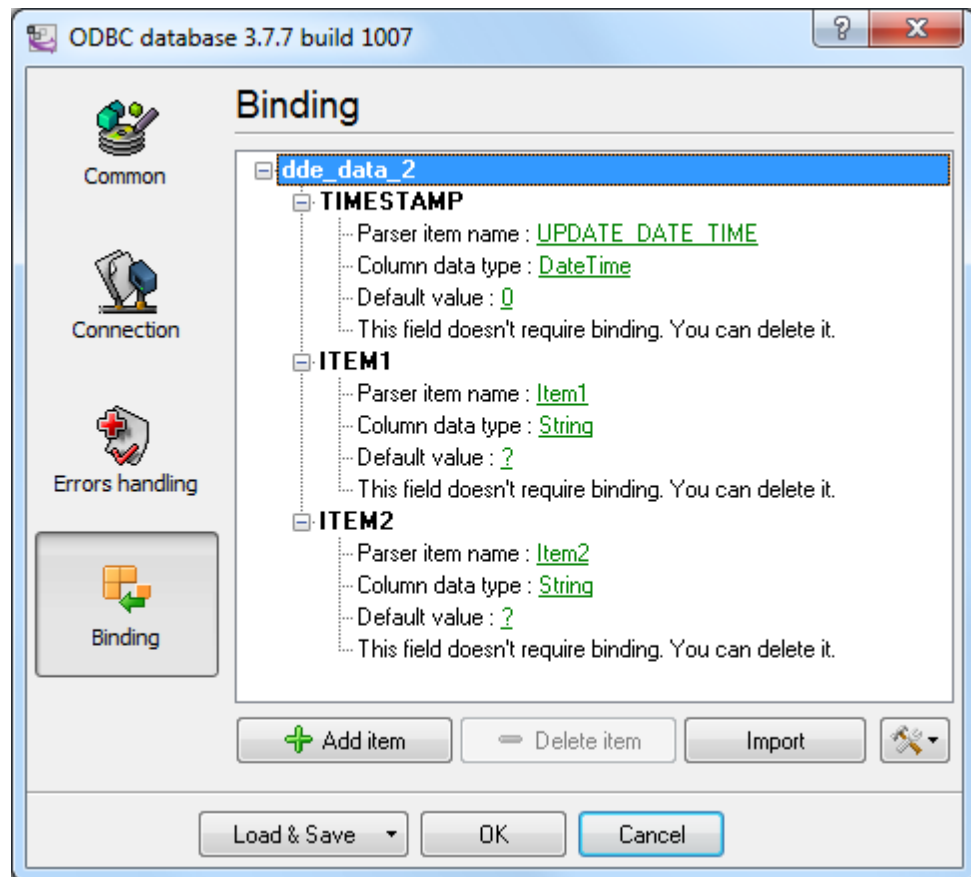

Fig. 4 Configuring the data export plug-in. Binding.
8. Binding (fig. 4) is slightly different from that in the previous example because the table contains a different set of columns.